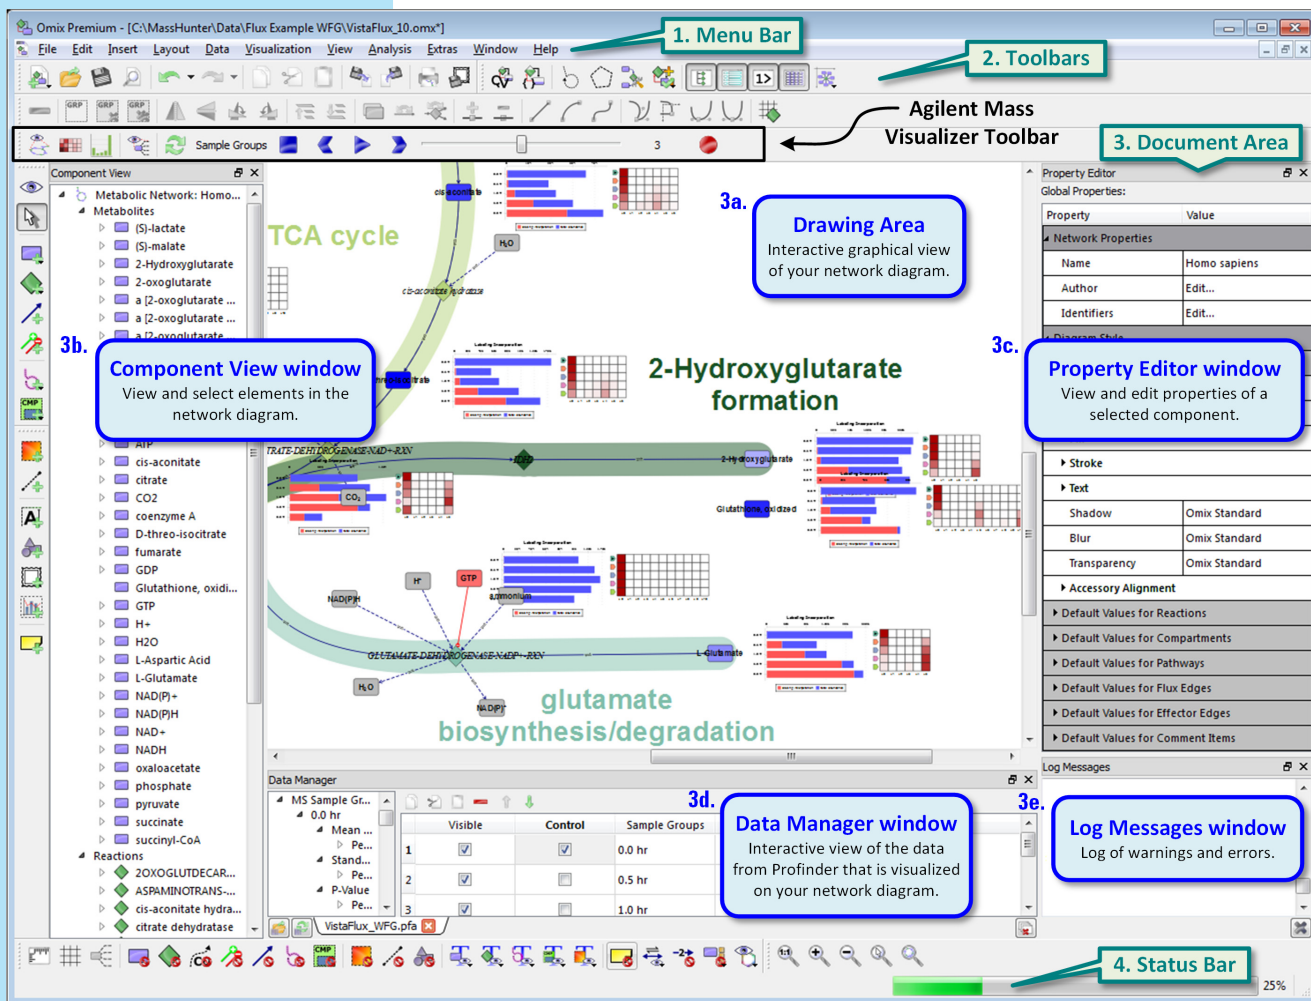

Figure 61 Screen areas of Omix Premium with the MassVisualizer toolbar
The main functional areas of Omix Premium are shown in Figure 61. The Omix Premium window consists of four parts: (1) the Menu Bar, (2) the Toolbar, (3) the Document Area, and (4) the Status bar.
The document area can be further divided into up to five windows — (3a) Drawing Area, (3b) Component View window, (3c) Property Editor window, (3d) Data Manager window, and (3e) Log Messages window. Your visualization, and most of your interaction with Omix Premium, takes place in the Drawing Area. Each window can be floated independently to any location and size on your computer display or arranged to your preference within the Document Area, as shown in Figure 61.